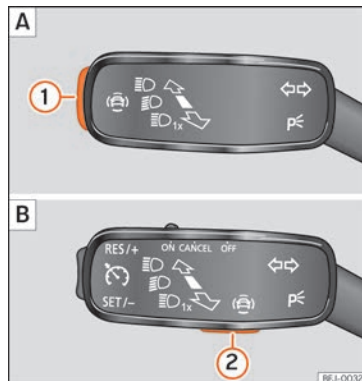

Fig. 138 On the turn light and main beam lever: key for driver assistance systems (depending on the version).
- Press » **Fig. 138** **1** or **2** briefly to open the **Driving aids** menu.